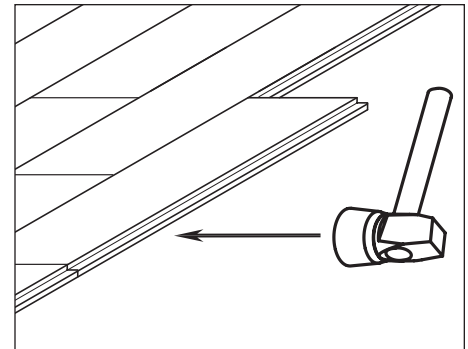

Figure 20 - "Pop" the tongue into the groove
(SEE FIGURES 20 AND 21)
2. Use the rubber end of the mallet to "pop" the tongue into the groove (see Figure 20).